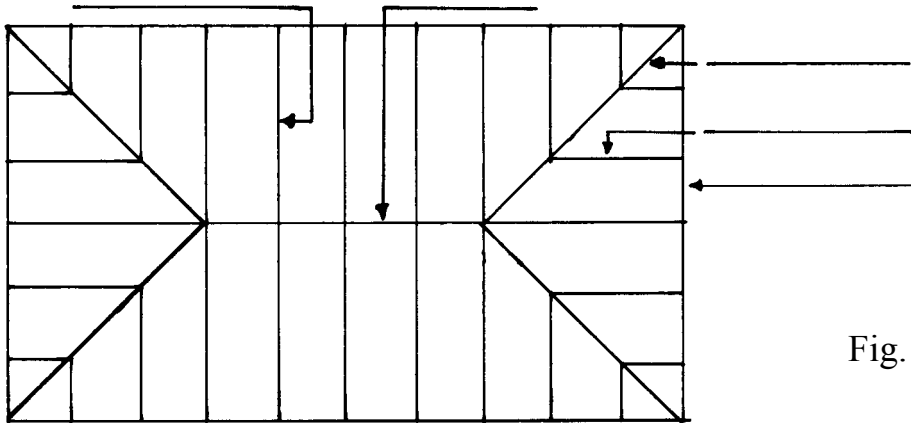

Fig. 13
39. Fig. 13 shows a plan of a hipped ended roof. Indicate the hip rafters, ridge, jack rafters, common rafters and wall-plate.